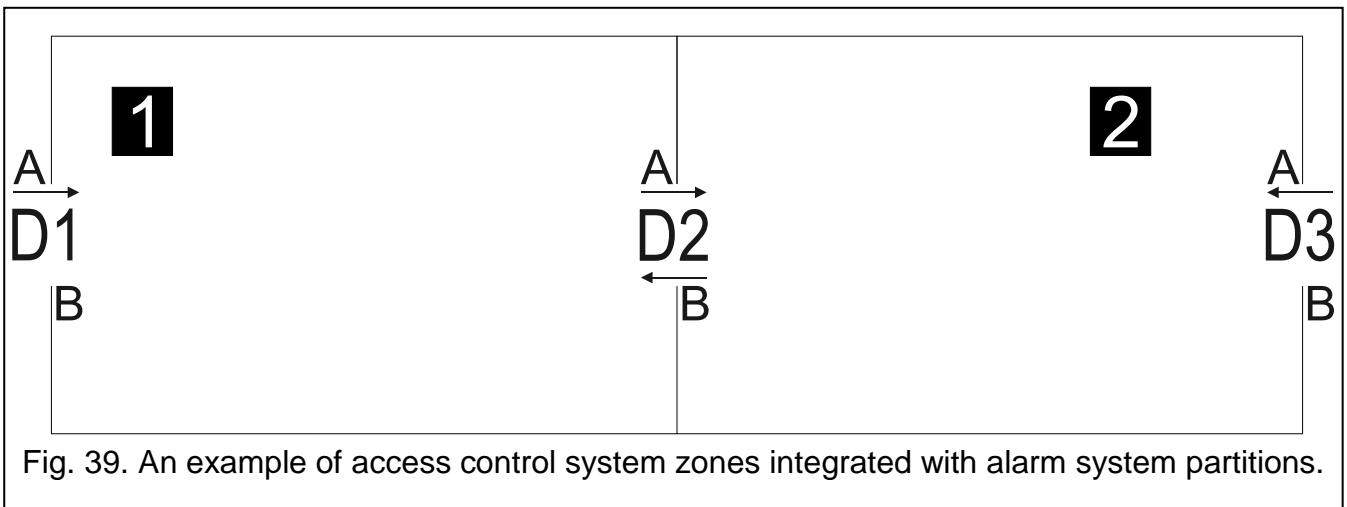

Fig. 39. An example of access control system zones integrated with alarm system partitions.
*In the case of integration, changing the state of alarm system partition will affect the status of access control zone. For example: the object (premises) is divided into two zones. Two doors are assigned to each of them, one of them being shared. Both zones of the access control system are integrated with the alarm system partitions (as shown in Fig. 39). If:*
Legend to Fig. 39: